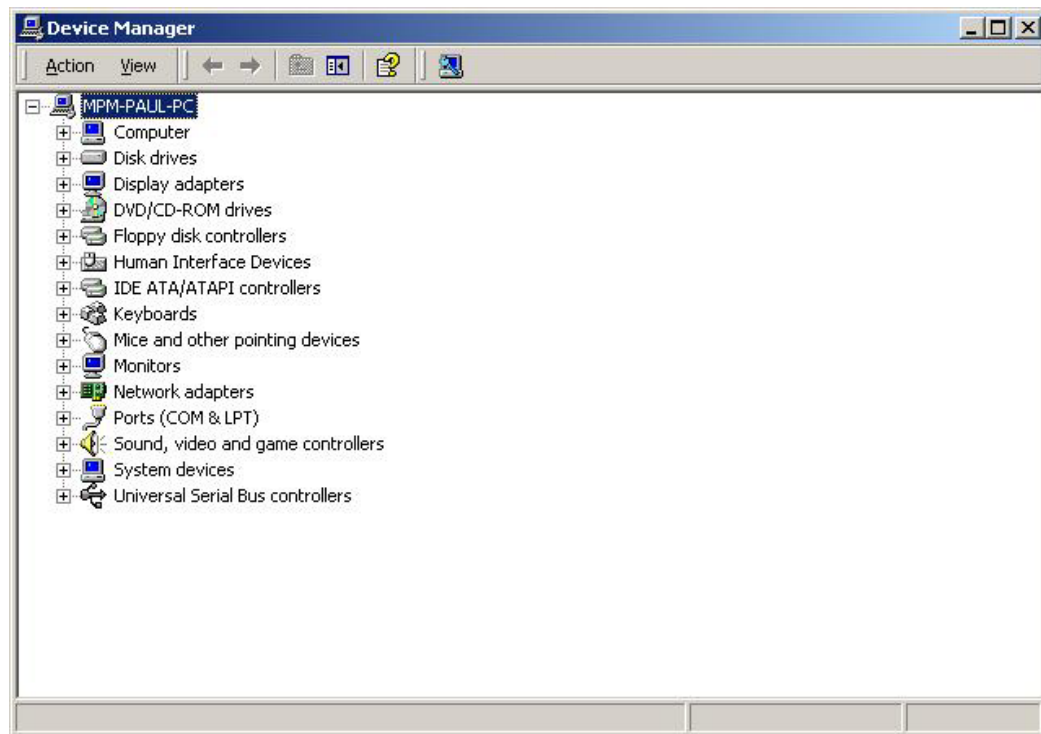

Figure 6-34: Device Manager List
Step 4: A list of system hardware devices appears (Figure 6-34).